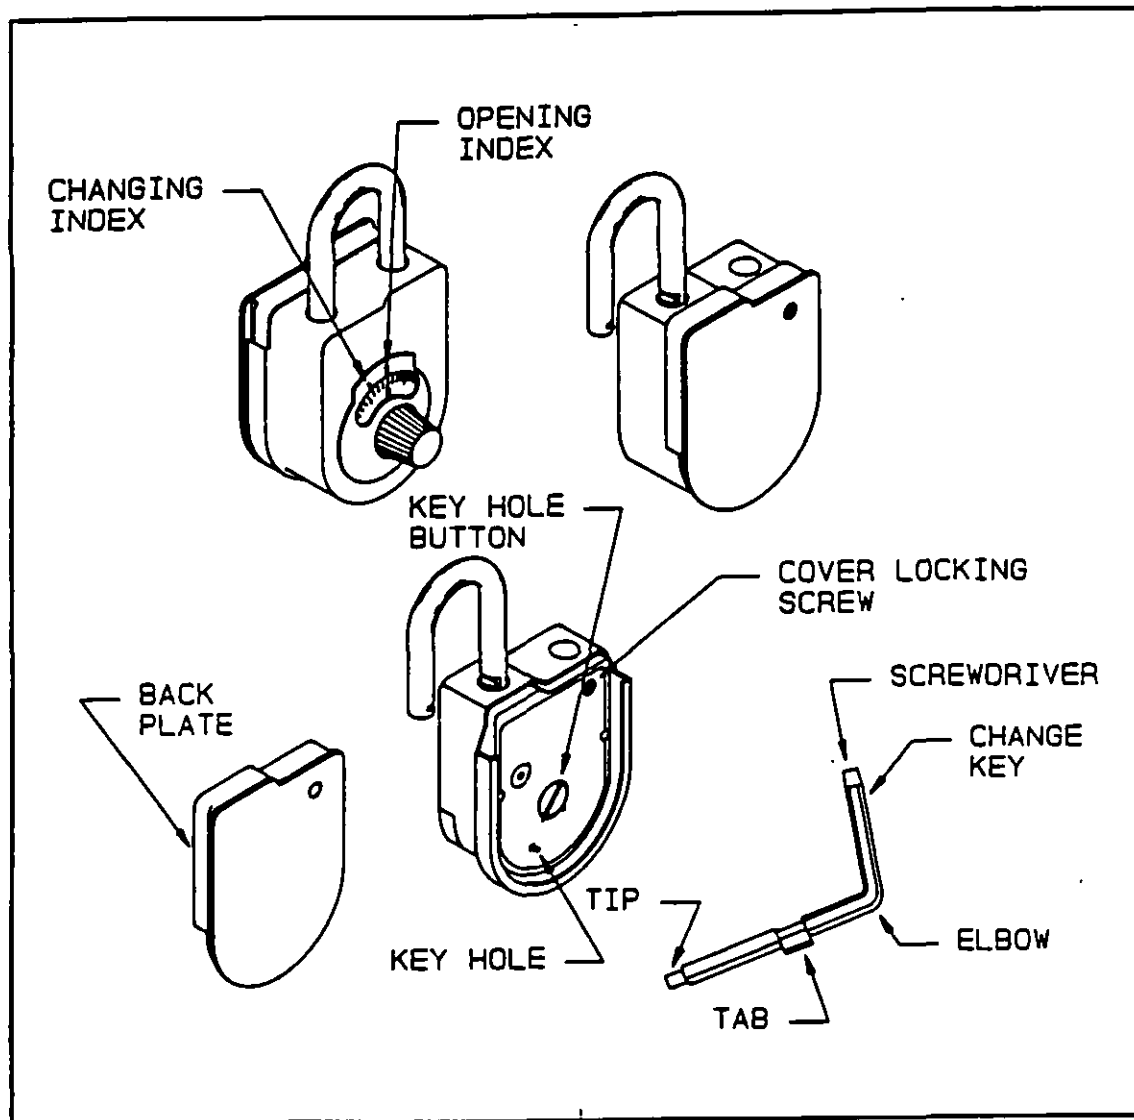

Figure 23
It has a 5/16-inch (8-mm) shackle made of either steel or brass. The brass shackle is for use in explosive environments. The Model 8077AB with change key is illustrated in Figure 23.
3.3.1.3 Combination Changing Procedure. To change the combination on the Model 8077AB refer to Figure 23 and proceed as follows:
- h) Dial the present (old) combination on the CHANGING index. All numbers of the combination, including the last number (0), are used in the combination changing procedure. Do not pull the shackle out.
i) Using the elbow of the changing key (Figure 23), turn the keyhole button on the back of the lock to the RIGHT to the open position. If the button will not turn, repeat the procedure in step i).